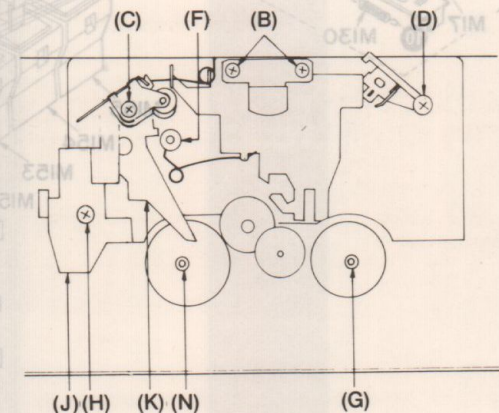

Fig. 2
Remove the two screws (2×7)mm (B). (See Fig. 2.) (Be sure to adjust the azimuth after reattaching.)
Remove the screw (3×6)mm (C). (See Fig. 2.)
Remove the screw (3×6)mm (D). (See Fig. 2.)
Temporarily secure the flywheel belt to the motor that drives it. Remove the Fast Forward belt. Remove the washer (F). (See Fig. 2.)
Remove the washer (G). (See Fig. 2.)
Remove the screw (3×6)mm (H). (See Fig. 2.)
Remove the eject slide lever (J). (See Fig. 2.)
Remove the auto stop lever (K). (See Fig. 2.)
Remove the washer (N). (See Fig. 2.)